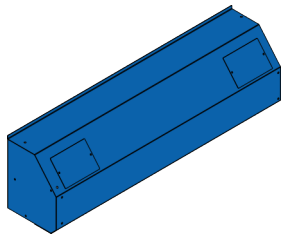

Fig. 11: Complete cover (271-01)
- Complete cover (271-01) (Fig. 11)